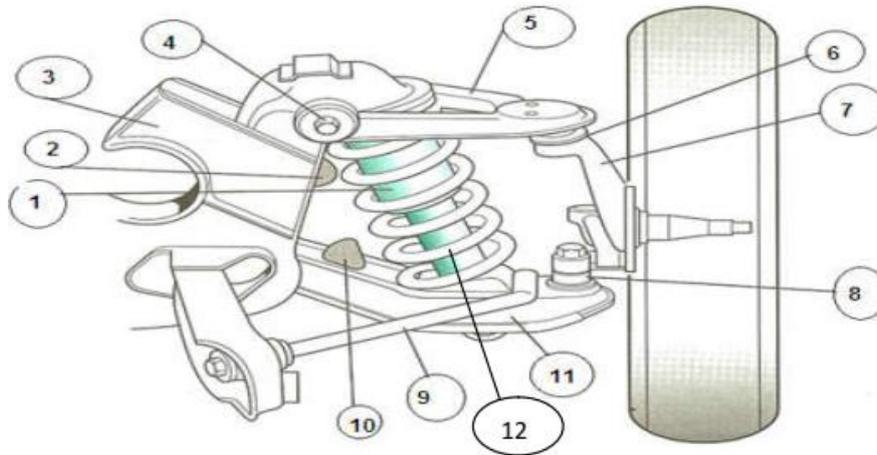

Figure 5
Figure 5 below shows a suspension system
- 3.1 Identify the types of suspension system represented by figure 5 above (1mark)
- 3.4 Give the function of part 1 of figure 5 above (3marks)